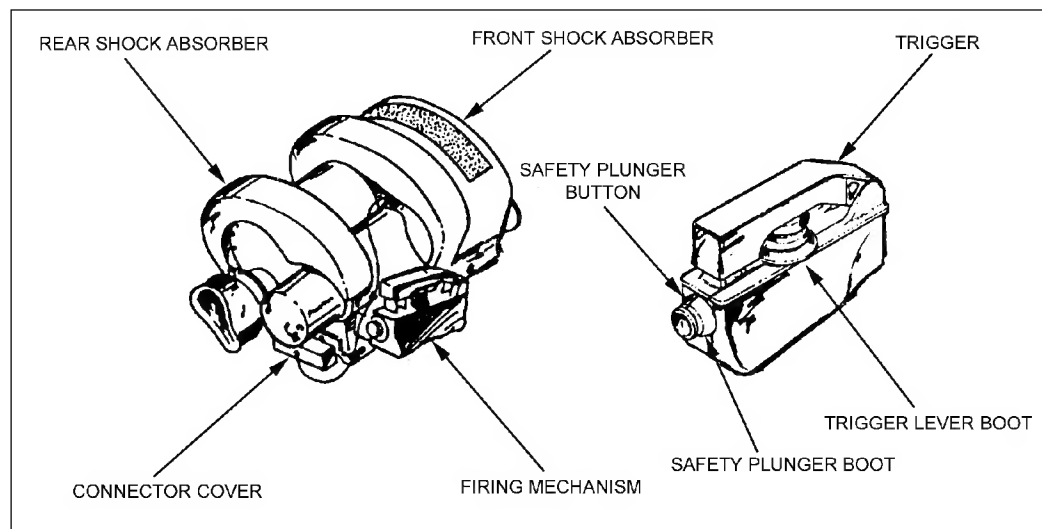

Figure 1-2. Daysight parts.
(2) The daysight attaches to and removes quickly from the round (Figure 1-2, page 1-2). The daysight's aluminum housing assembly contains the lens, infrared receiver assembly, and control signal comparator. The firing mechanism, located on the right side of the daysight's housing, consists of a trigger safety plunger and trigger lever bar. A rubber boot seals out moisture from the firing mechanism and safety plunger.
(3) A connector cover provides both mechanical and moisture protection for the electrical connector. A lanyard attaches the cover to the daysight.
(4) Shock absorbers surround the forward and rear ends of the daysight to protect it and its lens. The lens cover is attached to the daysight by a lanyard.